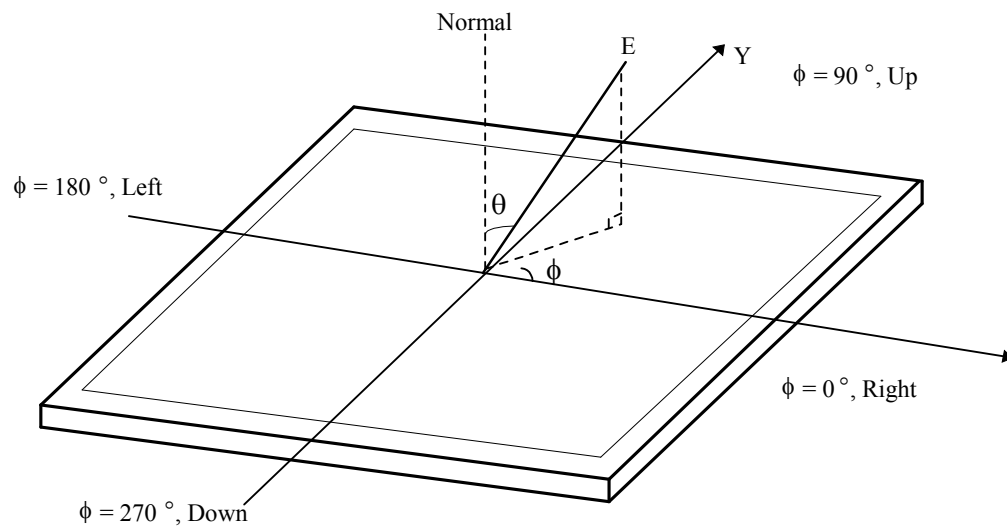

FIG. 5 Viewing Angle
5. Viewing angle is the angle at which the contrast ratio is greater than 10. The angles are determined for the horizontal or x axis and the vertical or y axis with respect to the z axis which is normal to the LCD module surface. For more information, see the FIG. 5.